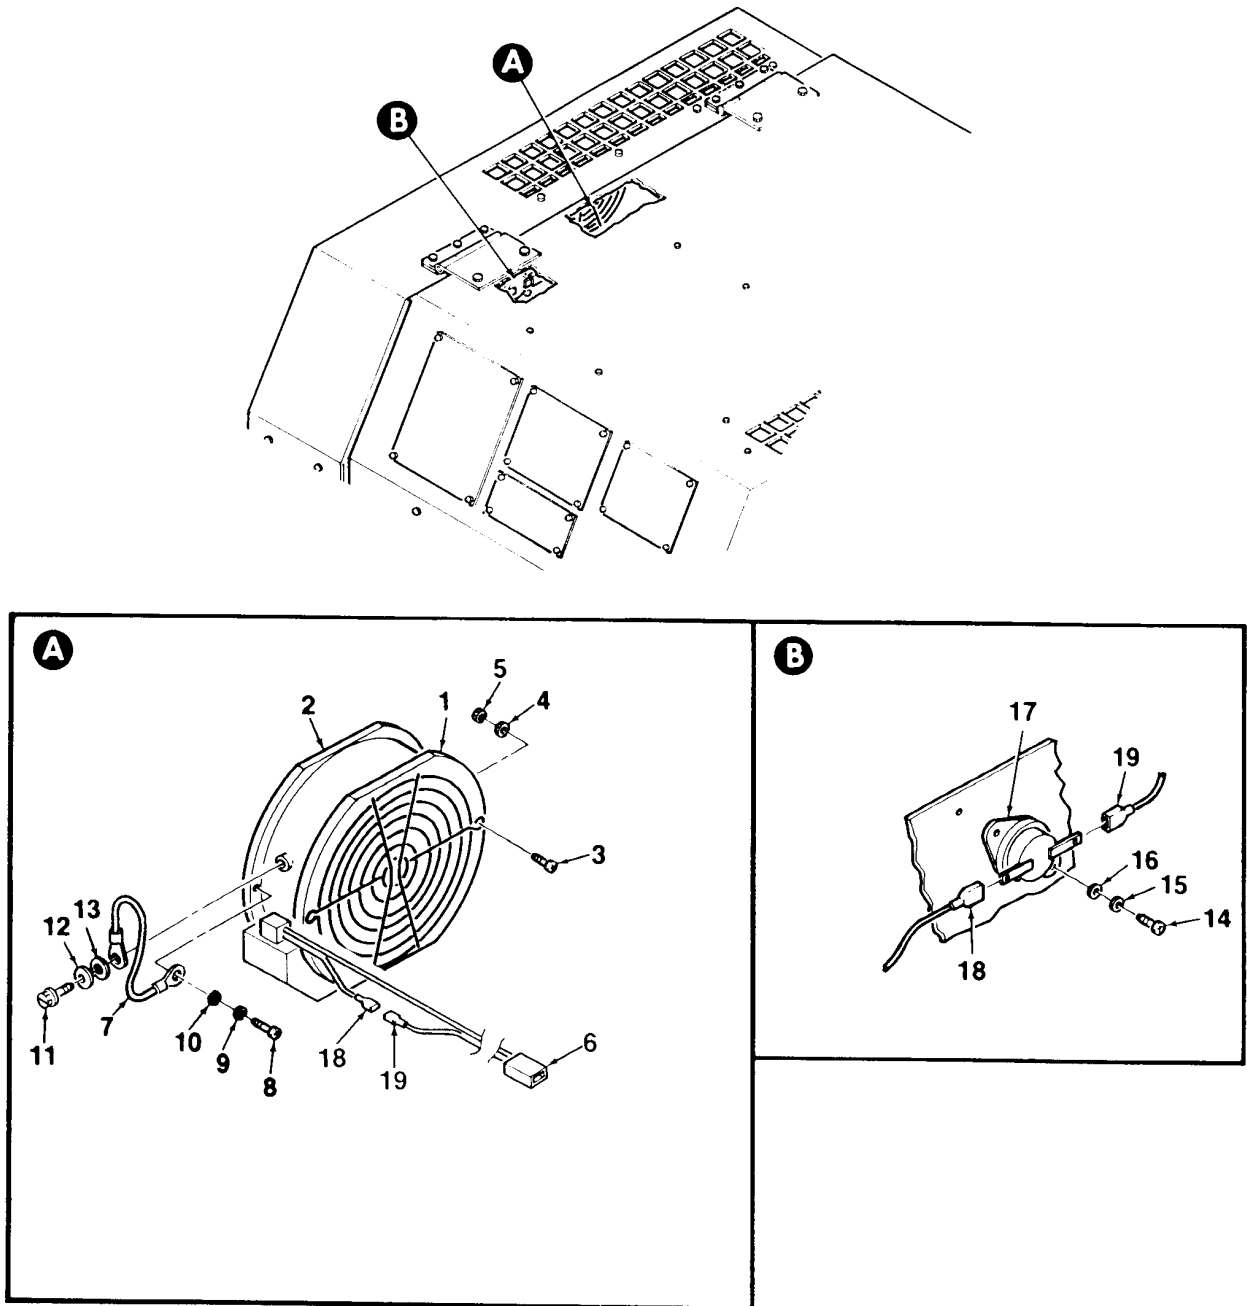

Figure 4-42. High Temperature Switch and Cooling Fan Installation
5. Mate high temperature switch S20 (17, Figure 4-42) (110° F) to rear wall of enclosure and secure using two screws (14), lockwashers (15), and washers (16). Connect two electrical wires (18, 19) to temperature switch.
6. Mate high temperature fan (2) to rear wall of enclosure and secure using two screws (8), lockwashers (9), and washers (10). Left hand screw (8) secures electrical wire (7).
7. Connect fan power cord (6) to generator set wiring harness. Connect wire (7) to fan using screw (11), lockwasher (12), and washer (13).
8. Install finger guard (1) onto fan (2) using two screws (3), washers (4), and nuts (5).